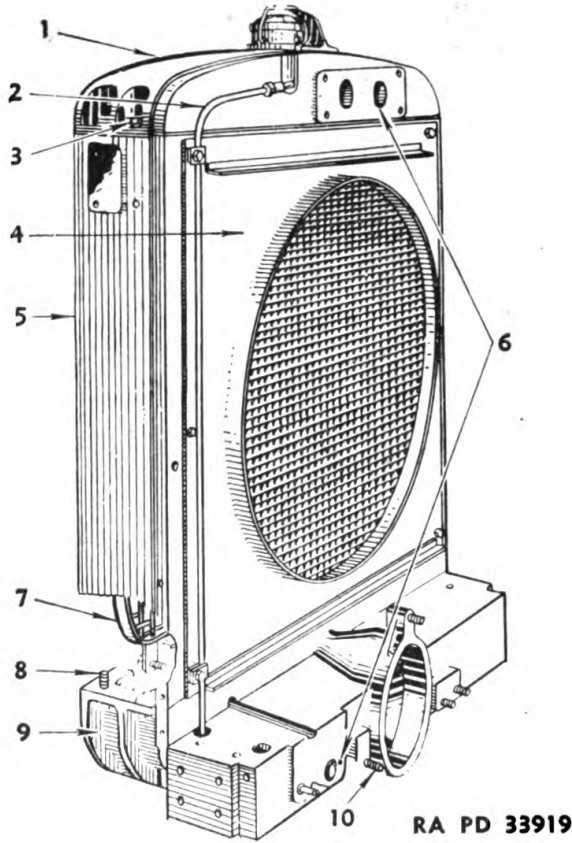

FIGURE 10. Radiator.
12. Radiator (fig. 10).—*a. Removal.*—Remove winch, power take-off front bearing, and engine hood. Drain cooling system. Disconnect water lines (6) and remove capscrews (10) that secure the radiator to the timing gear housing.